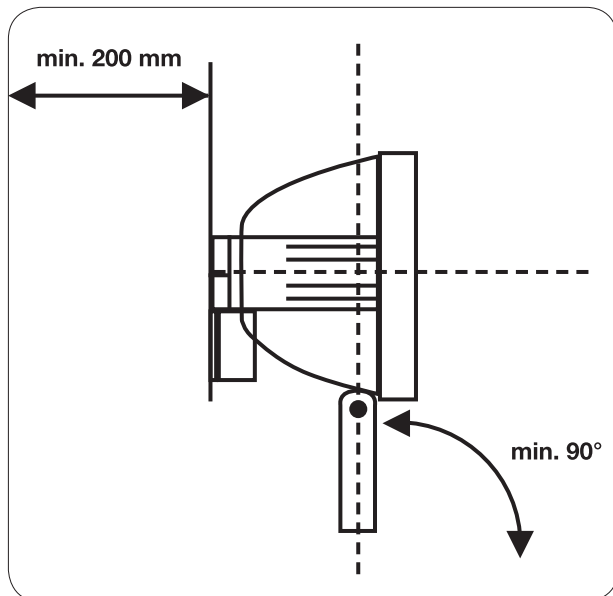

Fig.2
- For applications of normal inflammable surfaces follow the instructions of fig.2